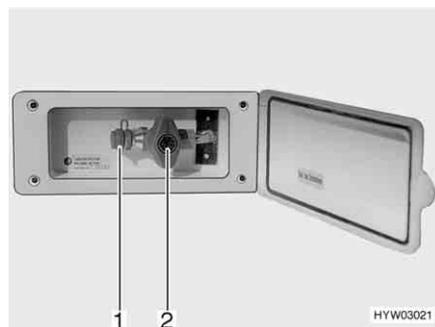

Fig. 102 External gas connection, gas isolator tap closed
The external gas connection (Fig. 102) is located at the rear or to the left or right of the vehicle depending on the model.
- Connect the external gas device to the connection point (Fig. 102,1).
- Open the gas isolator tap (Fig. 102,2).